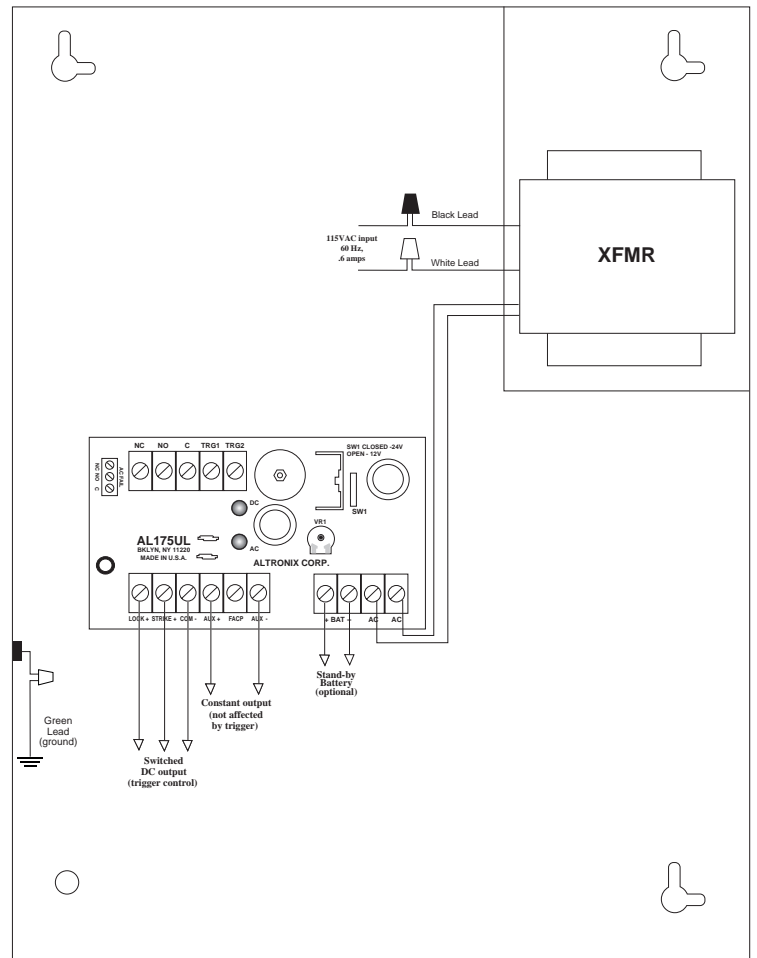

Fig. 1
4. Connect one (1) 12VDC battery to terminals marked [+ BAT -] (Fig. 1, pg. 2) for 12VDC operation.
6. For Access Control applications batteries are optional. When batteries are not used a loss of AC will result in the loss of output voltage. When the use of batteries is desired they must be lead acid or gel type. Connect battery to the terminals marked [+ BAT -] (Fig. 1) (battery leads included). Use two (2) 12VDC batteries connected in series for 24VDC operation.